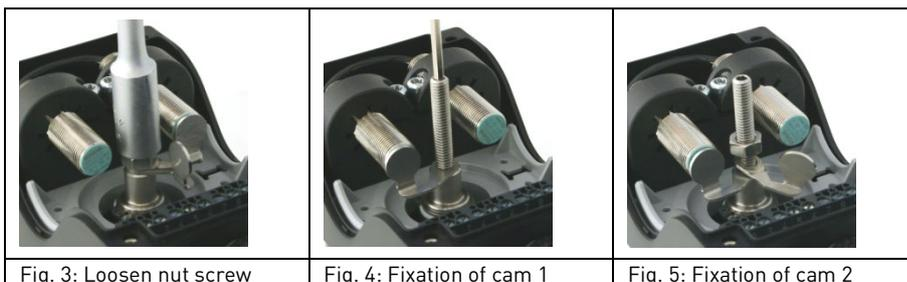

Fig. 3: Loosen nut screw
- a. Loosen the M6 nut screw and remove the upper cam. (Fig. 3)